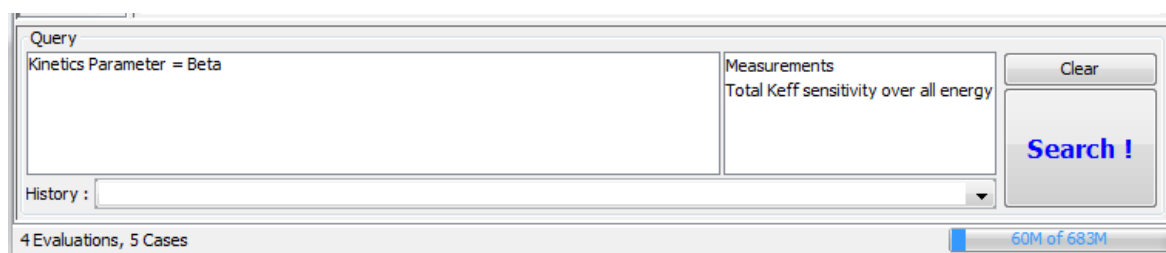

Figure 2: Query Pane located at the bottom of the search tab
The query pane, located at the bottom of the screen, displays the search criteria currently set. Also shown to the left of the search button, are the columns selected to be displayed in the results window (Measurements and Total  $k_{\text{eff}}$  Sensitivity in the example shown in Figure 2).
**Note:** The query panel to the left of the search button indicates the data that will be returned from the search; if a search is executed and none of the cases contain the desired data (Total  $k_{\text{eff}}$  Sensitivity over all energy for instance in Figure 2) the query will fail. The user is redirected to the no results screen. The user should then consider deleting the offending items from the query panel by selecting the text and pressing the delete button or by pressing the “Clear”.